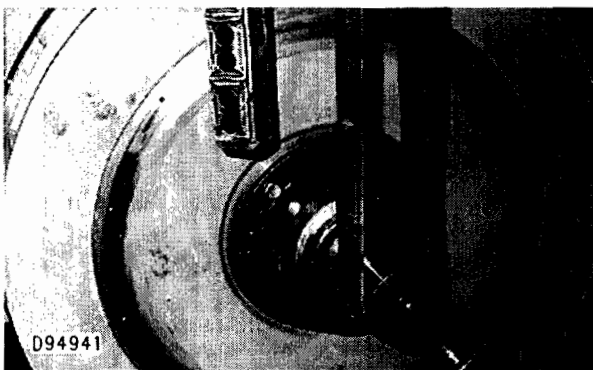

Figure 8
7. Place a sling about the drive end of the shaft and attach the sling to an overhead crane or hoist. Put enough pressure on the sling to hold shaft level. See figure 8.